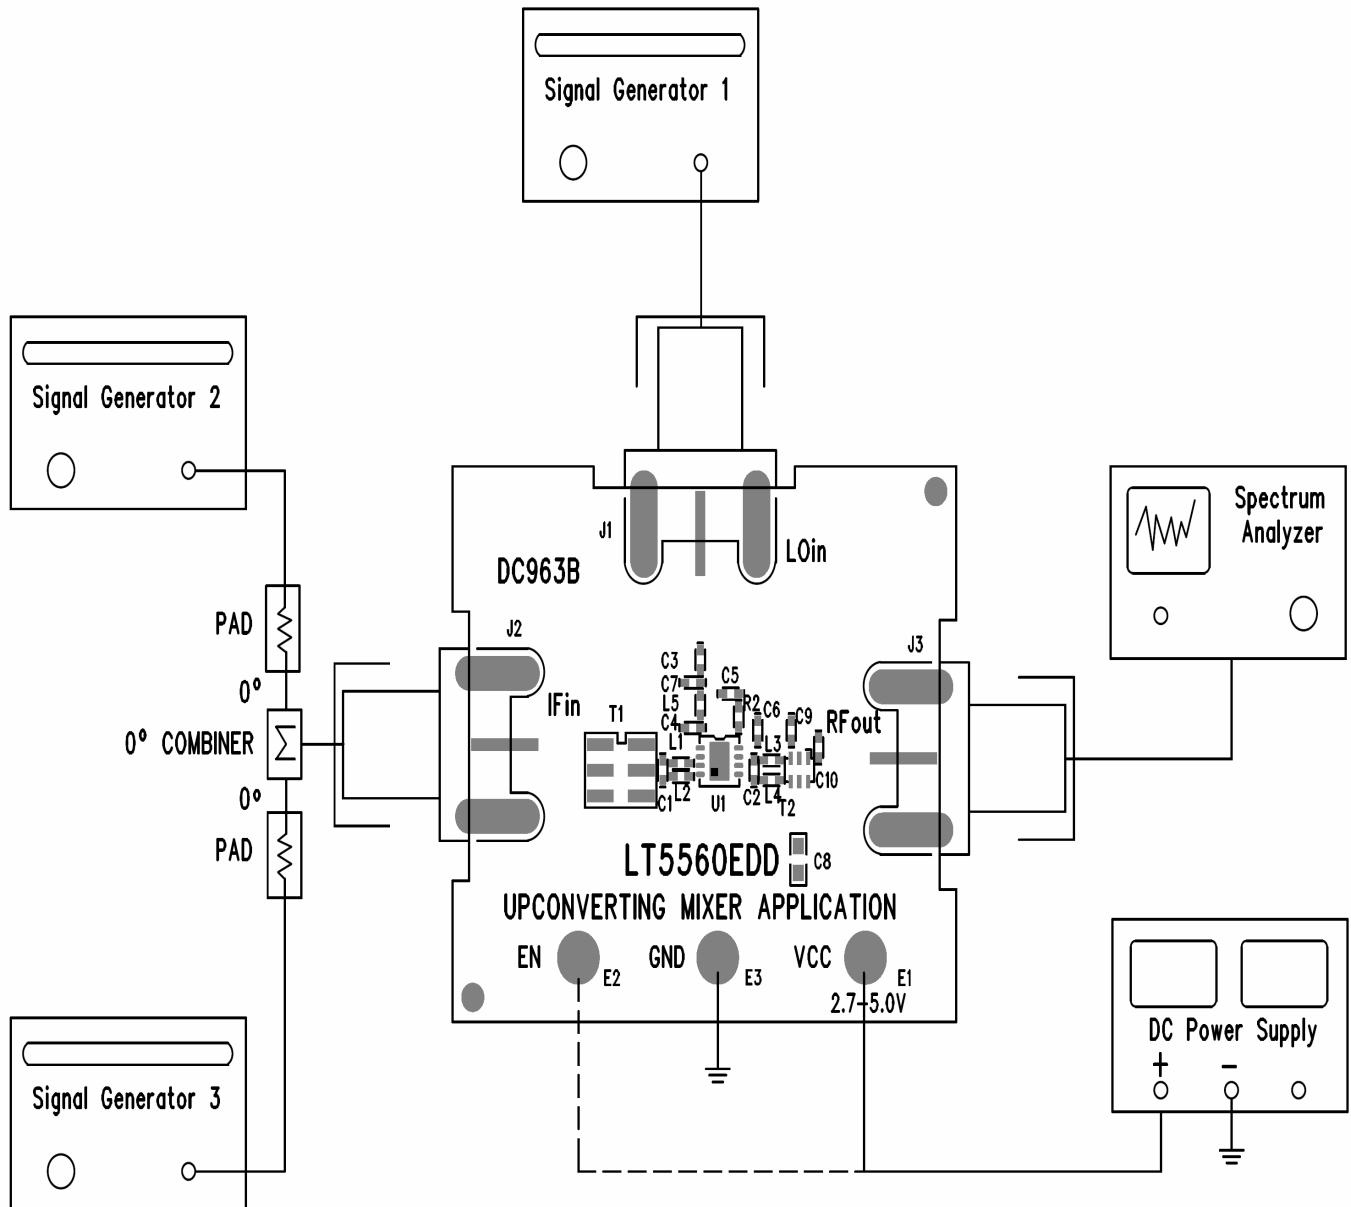

Figure 1. Proper Measurement Equipment Setup
Demonstration circuit DC963B is easy to set up to evaluate the performance of the LT[®]5560. Refer to Figure 1 for proper measurement equipment setup and follow the procedure below:
1. Connect all test equipment as shown in Figure 1.